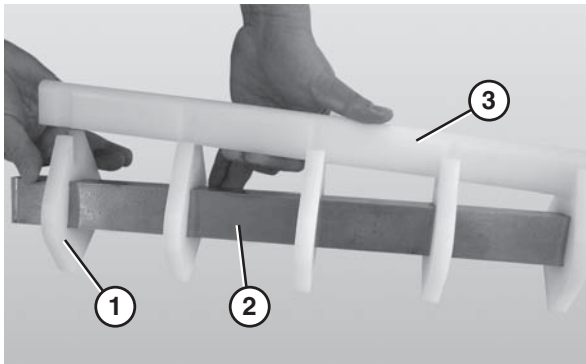

Figure 64
3. Remove the nose bar wear strip (Figure 64, item 3).
4. Slide the nose bar pucks (Figure 64, item 1) off the nose bar shaft (Figure 64, item 2).